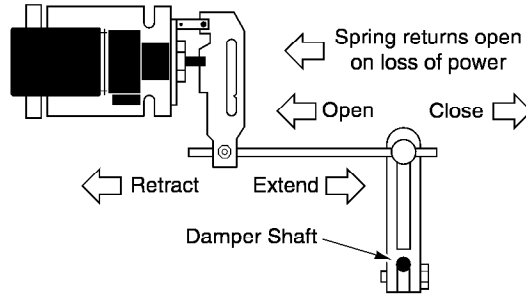
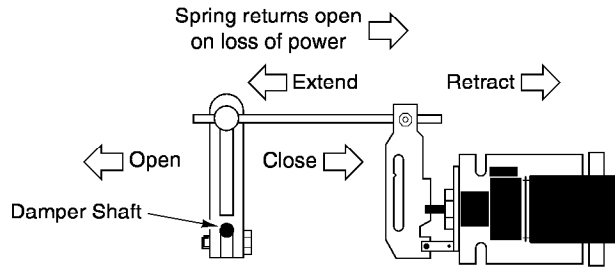

Figure-13 Dampers Open When Actuator Retracts (Spring>Returns Open on Power Loss).
Figure-14 Dampers Open When Actuator Extends (Spring>Returns Closed on Power Loss).
- a. Determine, from the system requirements, if the damper should spring-return to the open position (Figure-13) or closed position (Figure-14) whenever power is lost to the actuator. For example, an outside air damper actuator is typically linked so as to retract (spring-return) to the damper's fully closed position (safe position).